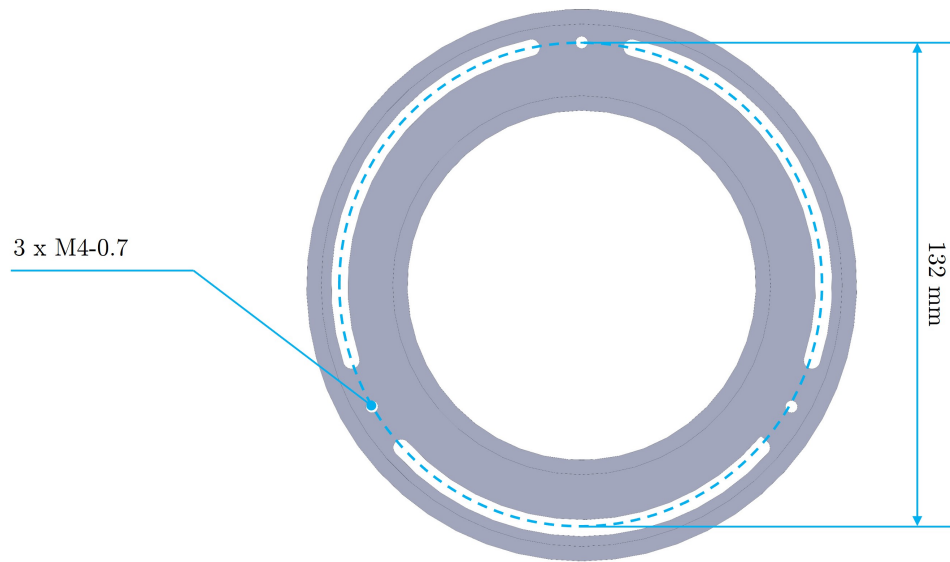

Figure 2: Dimensional drawing of a mounting plate with three M4-0.7 mounting holes spaced 120° apart on a 132 mm circle.
1. Install the mounting plate at the measurement site with one threaded hole pointing toward the equator. Please refer to Figure 2 for relevant dimensions.